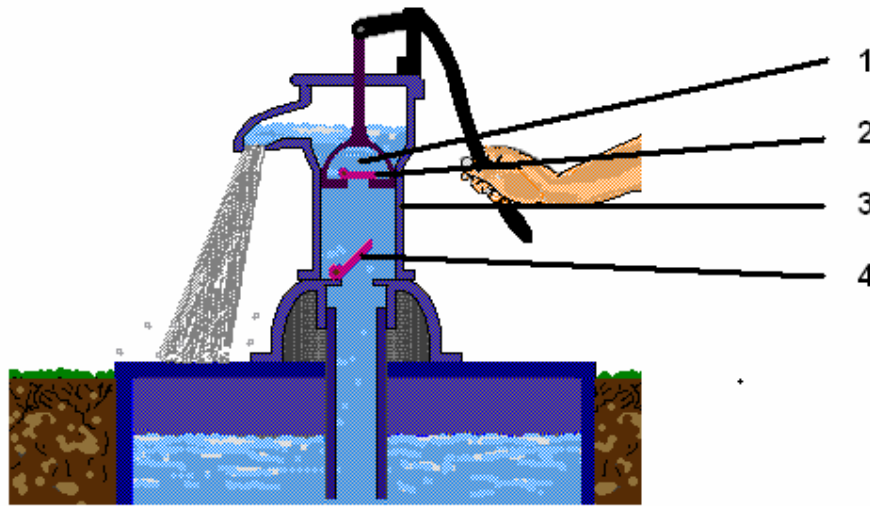

FIGURE 6.2
6.5 FIGURE 6.2 shows a single-acting pump.